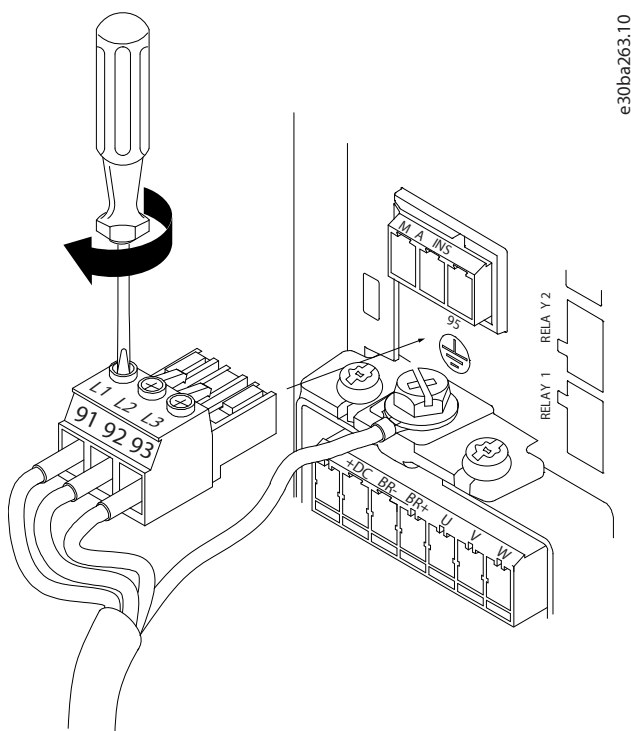

Figure 58: Mounting the Mains Plug
3. Insert the mains cables to the mains plug and tighten the screws as shown in Figure 58. Use the tightening torques described in 7.2 Electrical Installation in General.